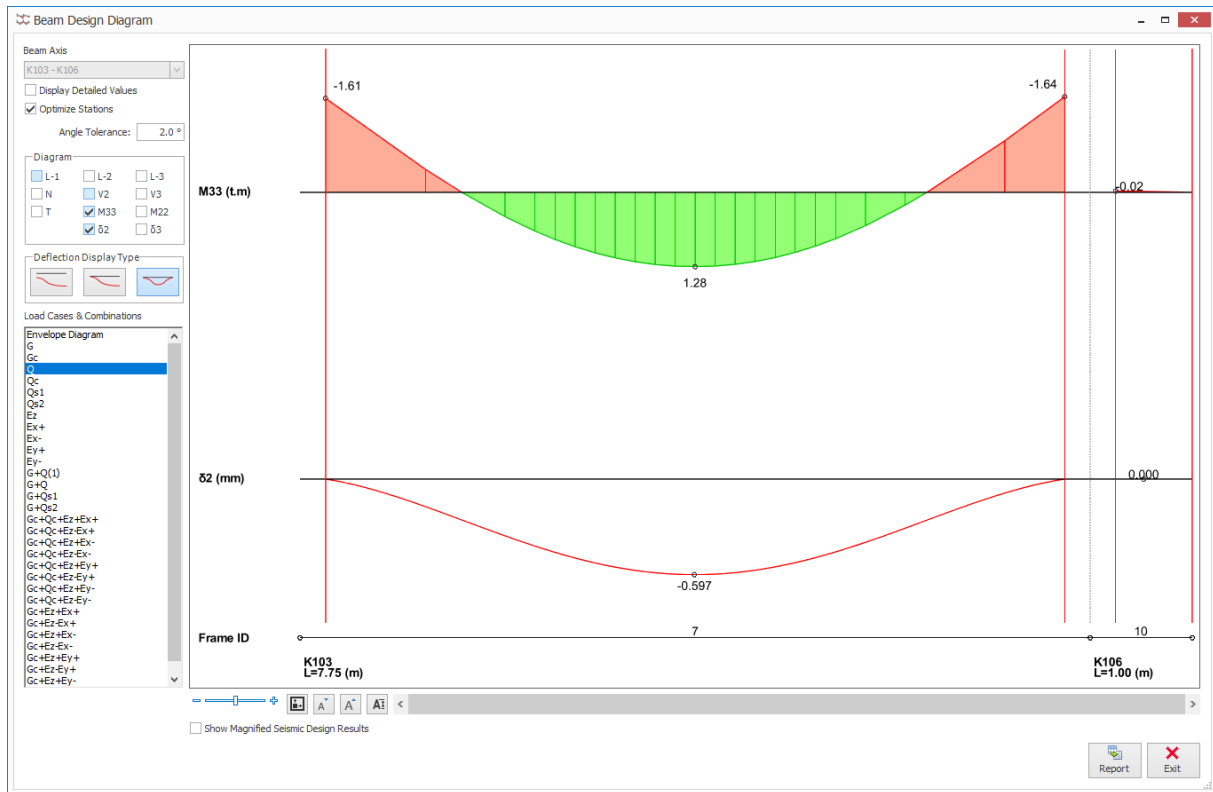

Figure 7: Q Load Case M_{33} Moment Value and δ_2 Deflection Value
6.	$M_{max} \leq M_{cr}$ or $M_{max} > M_{cr}$ control is shown in Figure 7.